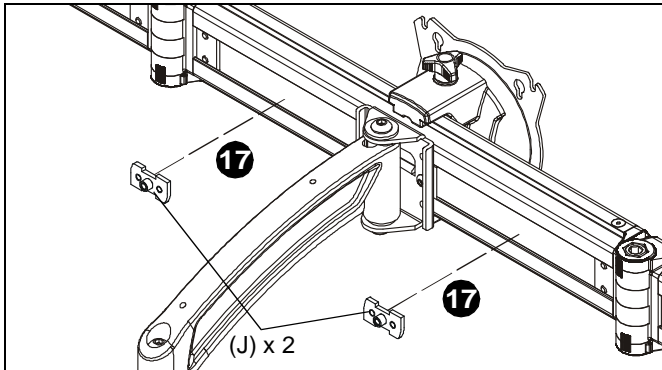

Figure 10
17. (K4G310 only) Insert two channel attachments (J) into back of array center (BB). Attachments must be turned horizontally in order to fit into channel. (See Figure 10)